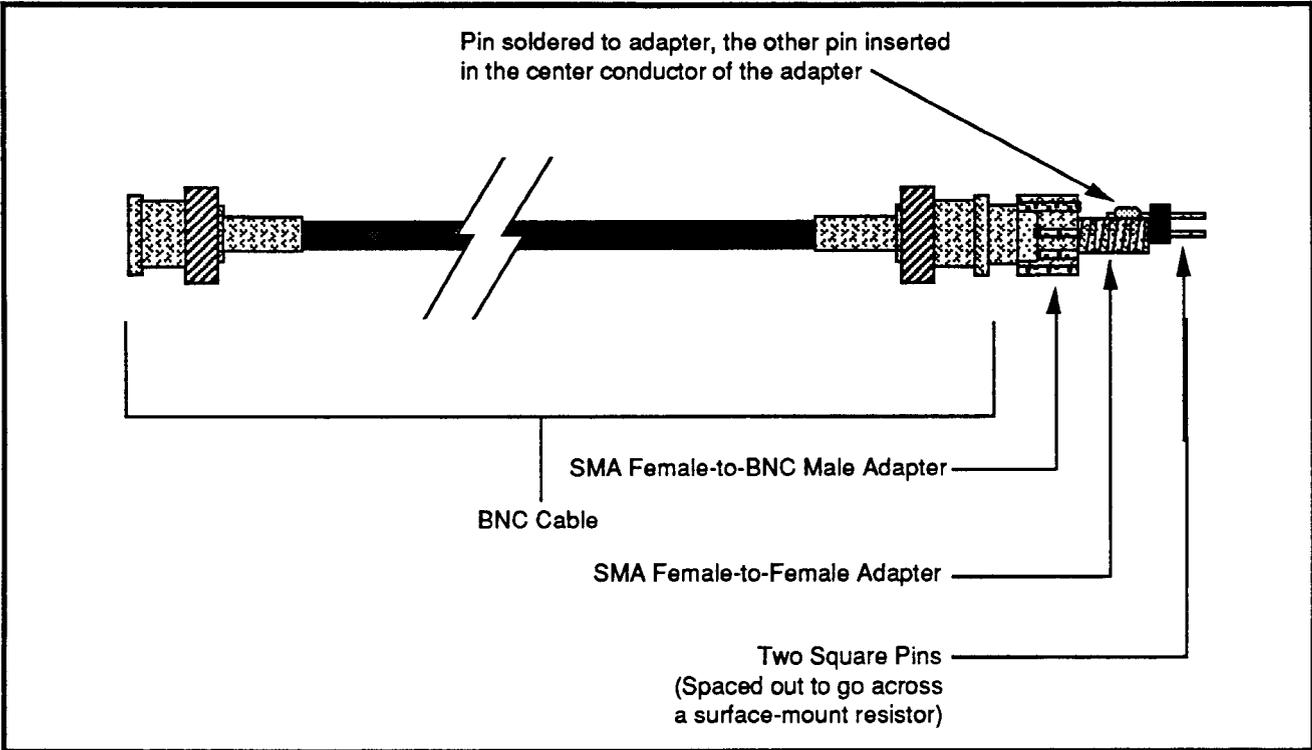

Figure 13. Special probe construction.
- Special Test Probe (Figure 13)